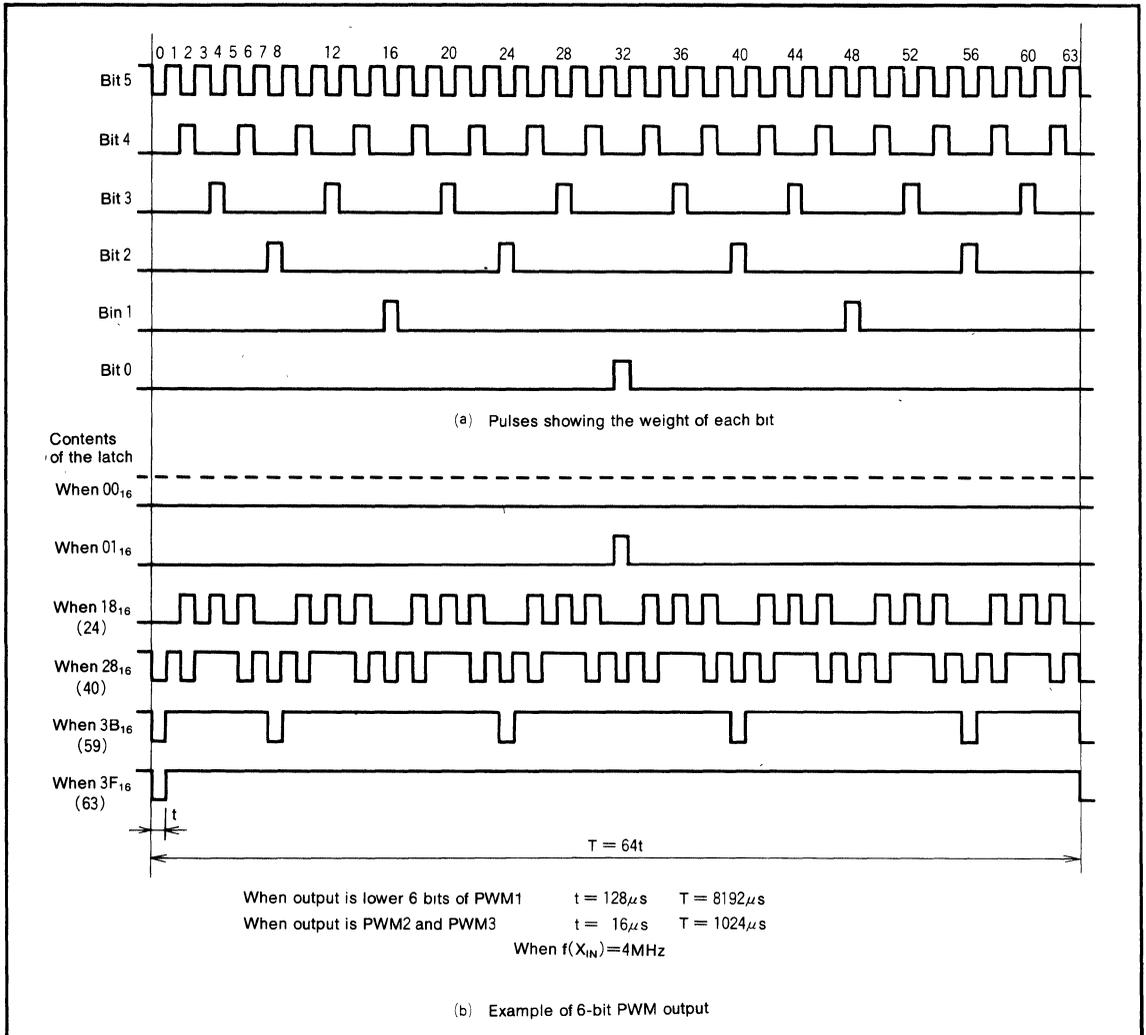

Fig.10 6-bit PWM timing diagram
(4) Operation of the 6-bit PWMs
The timing diagram of the two 6-bit PWMs (PWM2 and PWM3) is shown in Figure 10. One period (T) is composed of 64 (2^6) segments.
There are six different pulse types configured from bits 0~5 representing the significance of each bit. These are output within one period in the circuit internal section. Refer to Figure 10(a).
Six different pulses can be output from the PWM. These can be selected by bits 0 through 5. Depending on the content of the 6-bit PWM latch, pulses from 5~0 is selected. The PWM output is the difference of the sum of each of these pulses. Several examples are shown in Figure 10(b). Changes in the contents of the PWM latch allows the selection of 64 lengths of high-level area outputs varying from 0/64 to 63/64. An length of entirely high-level output cannot be output, i.e. 64/64.